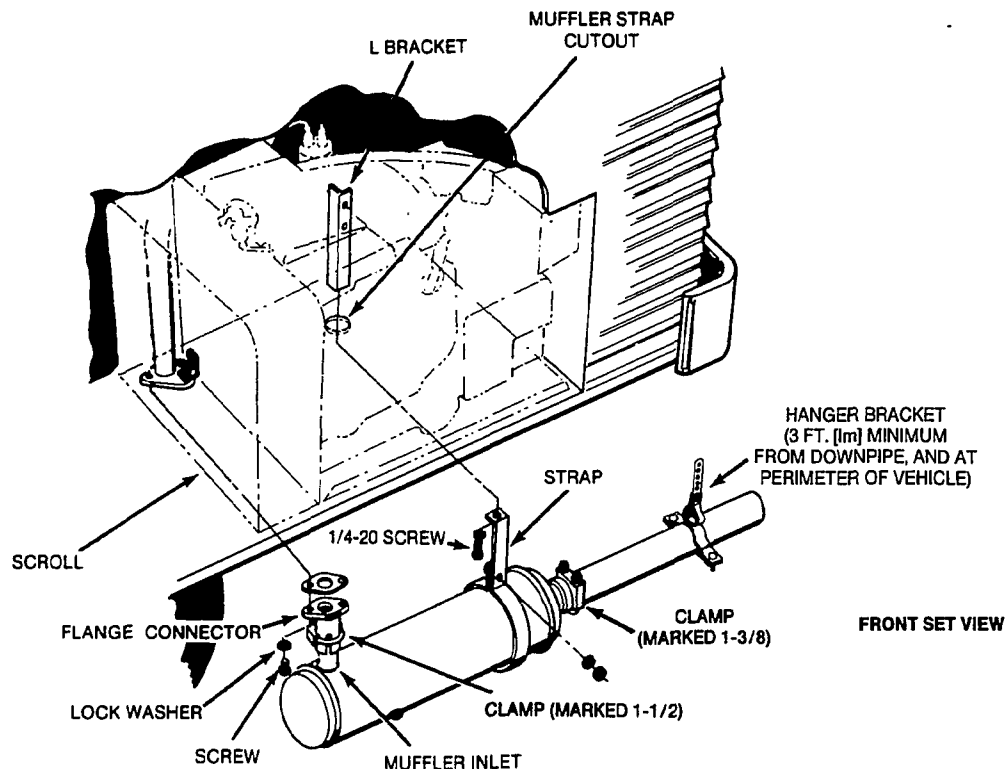
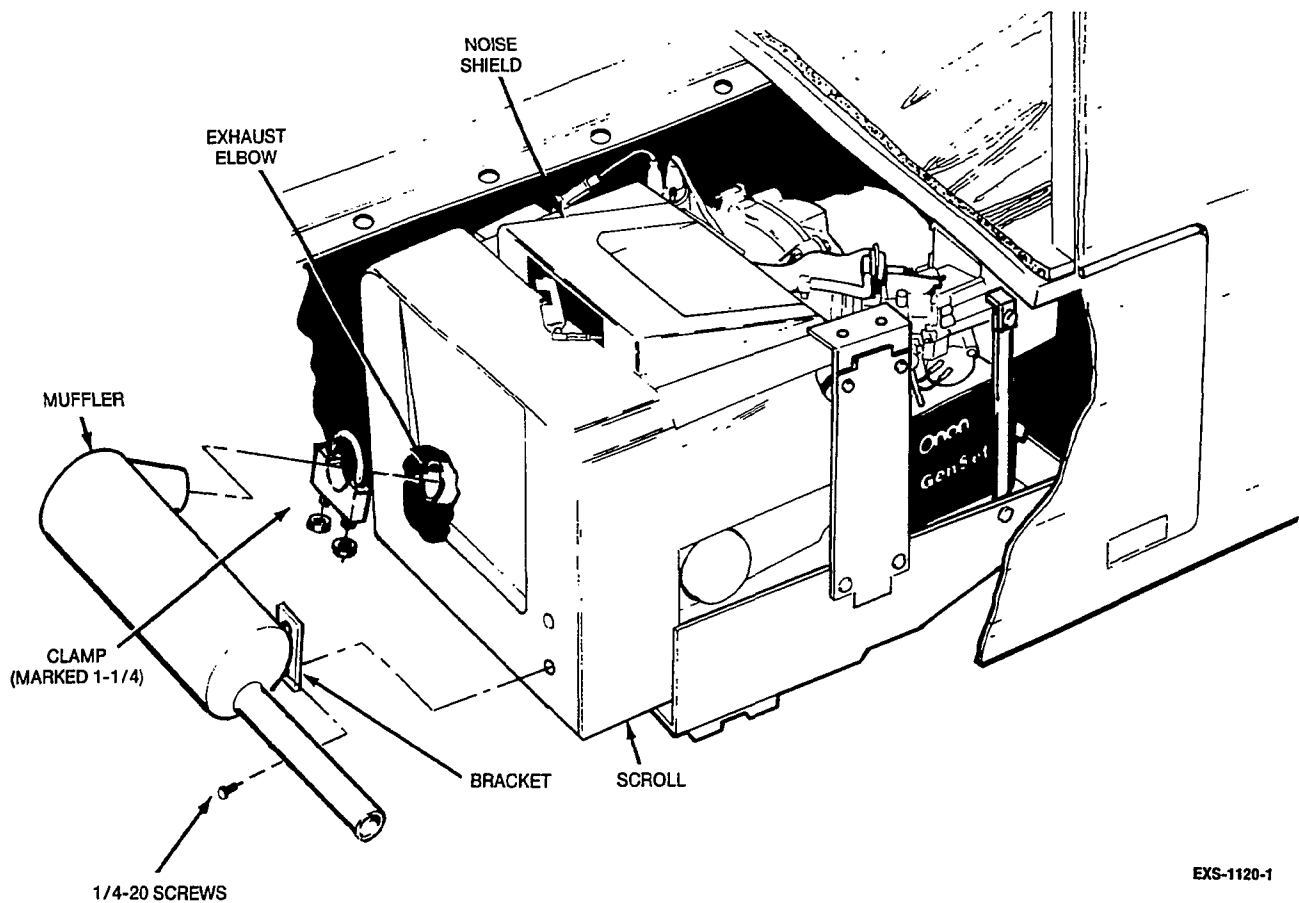

FIGURE 6-1. CONVENTIONAL COMPARTMENT MOUNT EXHAUST SYSTEM
FIGURE 6-2. UNDERFLOOR MOUNT EXHAUST SYSTEM
Two basic exhaust systems are used with Emerald series generator sets. Figure 6-1 shows a typical exhaust system for a compartment mount generator set. Figure 6-2 shows a typical exhaust system for an underfloor mount generator set. Separate sections cover the service procedures for each exhaust system. Also refer to specific kit installation instructions.
1. Loosen the front muffler clamp, muffler strap, and tailpipe hanger. Remove the muffler and tailpipe assembly (see Figure 6-1).
1. Loosen the muffler clamp at the muffler inlet (see Figure 6-2) and remove the muffler support bracket screws.